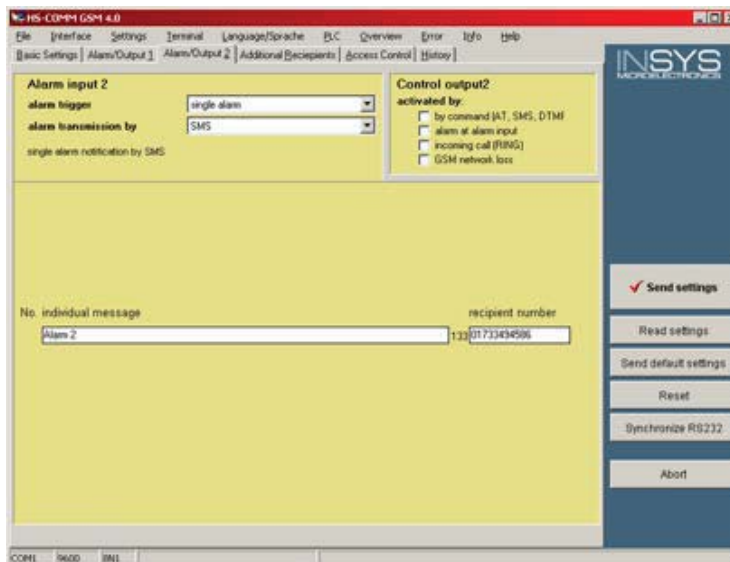

Fig. 222: GSM modem - alarm/output 2
3. ➤ Set up the modem as shown in (Fig. 222) on the “Alarm/Output 2” tab.